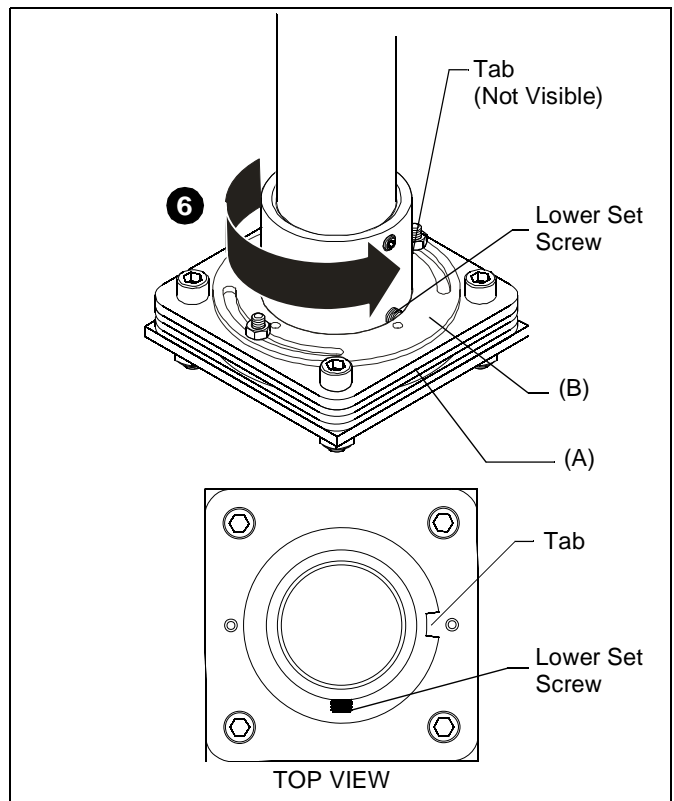

Figure 3
6. Rotate the bottom of swivel adapter (A) until middle set screw in swivel adapter (A) makes contact with tab in stop plate (B). (See Figure 3)